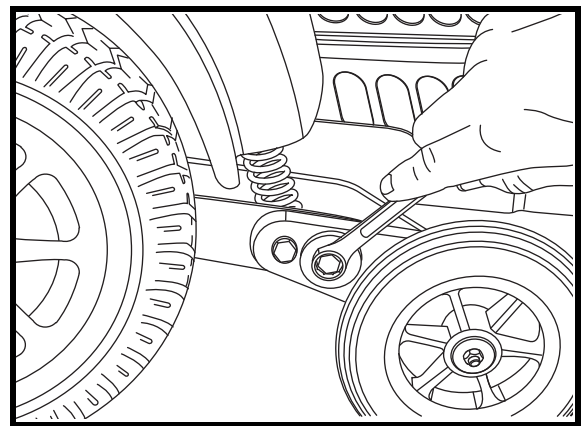

Figure 22. Anti-Tip Wheel Adjustment (Cam)
4. To adjust the anti-tip upward, turn the cam anticlockwise. To adjust the anti-tip downward, turn the cam clockwise. See figure 22.